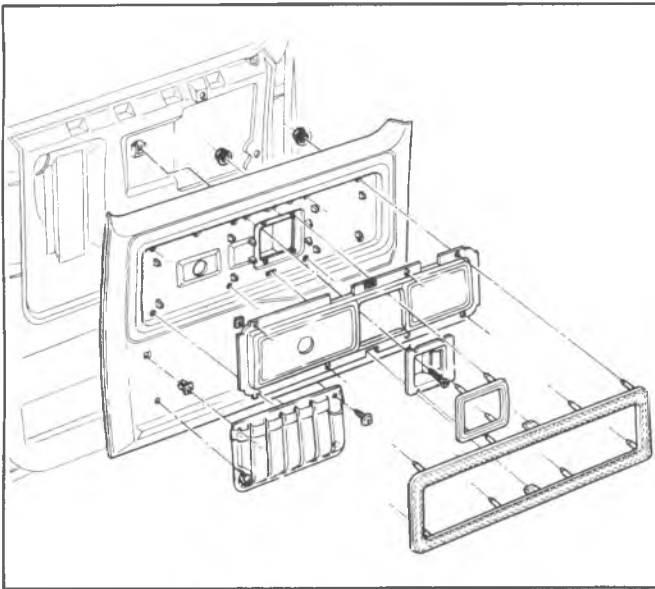

Fig. 2D-25--Door Trim Panel
**DOOR VENTILATOR ASSEMBLY--Fig. 2D-28**